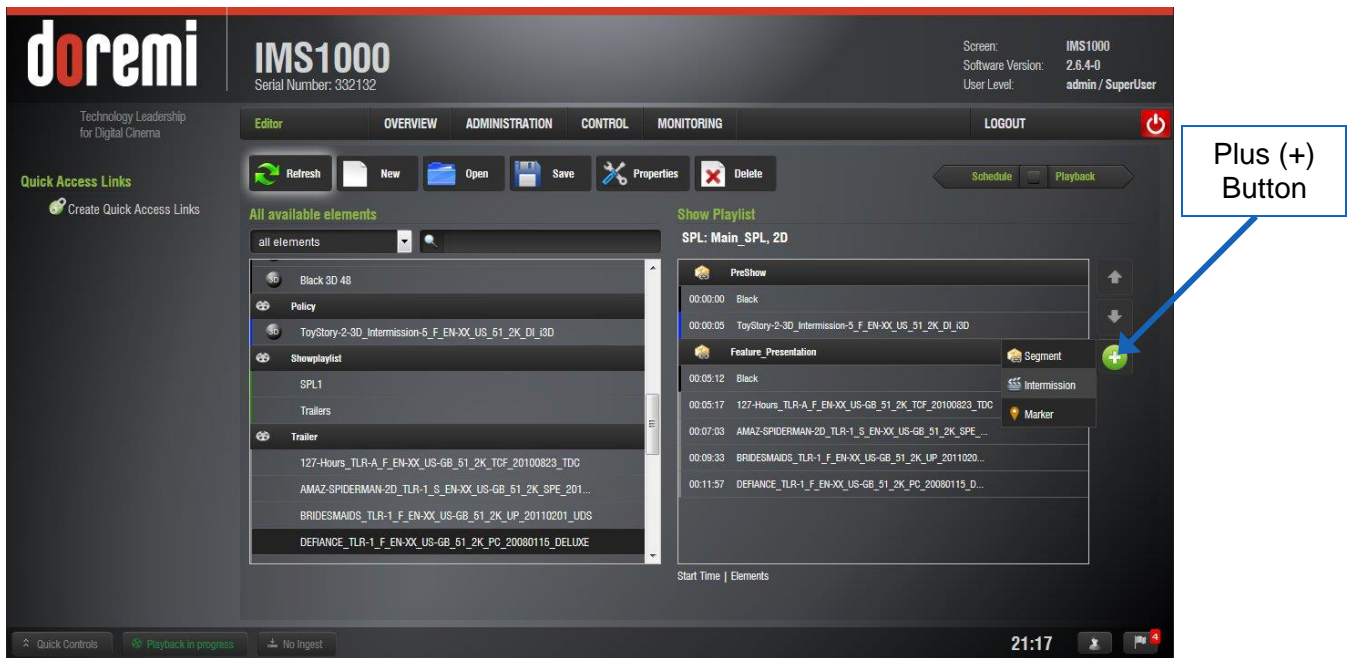

Figure 254: Intermission Drop-Down
- Select the CPL to attach the Intermission SPL to and click the Plus (+) button. In the drop-down that appears, select Intermission (Figure 254).